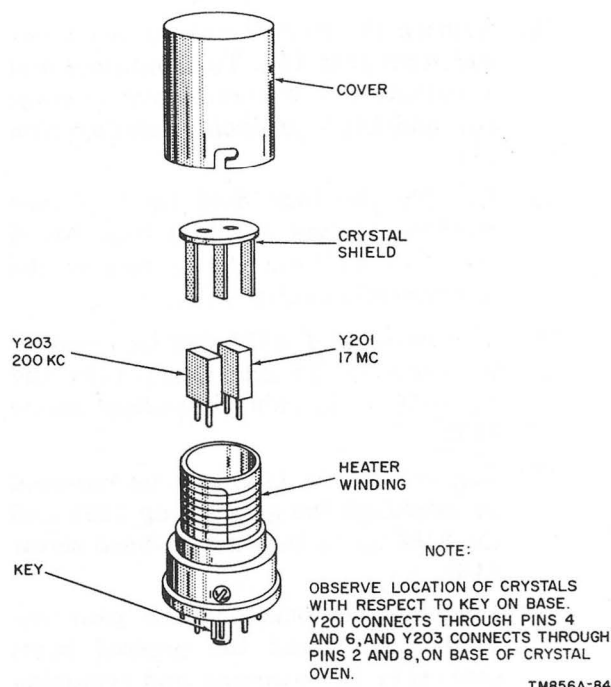

Figure 83. Location of crystals Y201 and Y203.
- (1) *Slug racks and springs.* Remove the slug racks by disengaging the retaining springs and lifting the slug racks out of the coils and away from the chassis. A paper clip or short piece of solid wire can be fashioned into a hook for disengaging the springs. Use paper clips for securing the springs to the gear and cam plates while the slug racks are removed from the coils and transformers.
- (2) *Band switch shaft.* The band switch shaft can be removed from the eight wafer switches by loosening its drive gear and removing the retaining ring. Continue the removal by sliding the shaft towards the rear of the chassis, but be sure not to disturb the setting of the rotors in each wafer switch. When replacing the shaft, be careful not to damage or turn the rotors on these wafer switches.
- (3) *Crystal oven HR202 (fig. 58).* The crystal oven is removed from its octal socket by first removing the retaining springs and plate and then pulling it upward out of the socket. Disassembly of the crystal oven is shown in figure 83 and should be used as a guide in replacing the plug-in crystals. The internal construction of certain crystal ovens from various suppliers will vary with respect to internal construction;